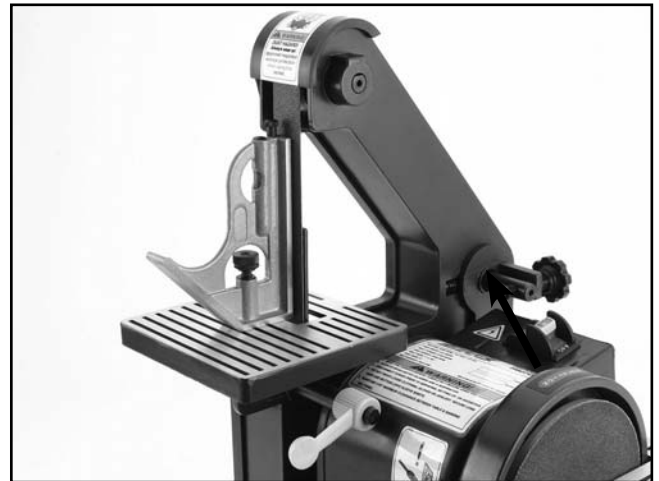

Figure 22. Squaring table to platen.
2. Loosen the table lock lever(s) and use the combination square to square the table to the platen or the table to the disc as shown in **Figures 22** and **23**.